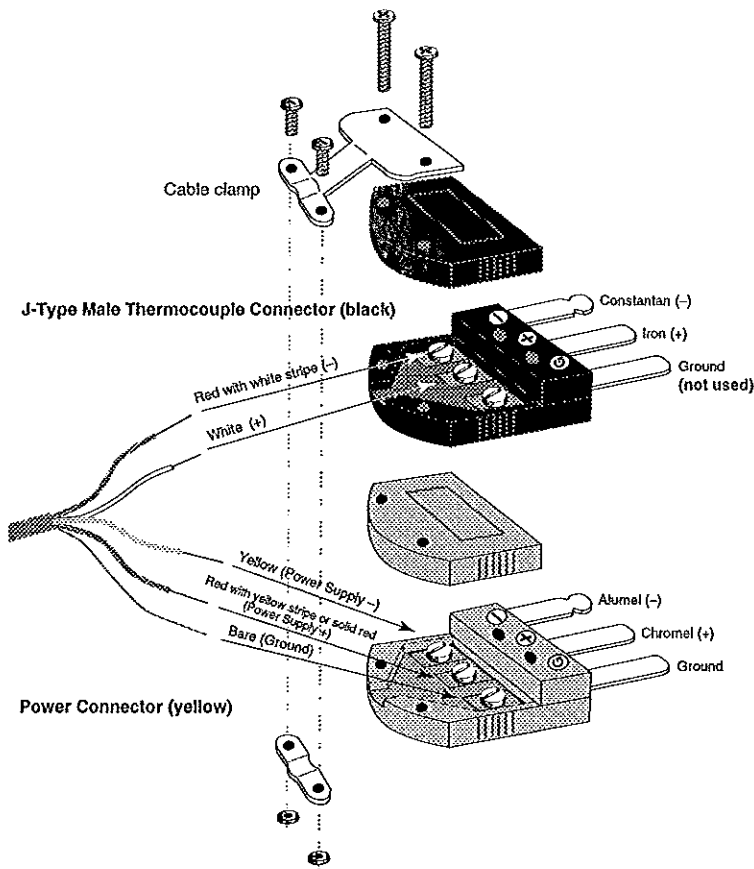

Figure 1: J-Type Male Connector
1. Remove the long screws that hold the cable clamps on the male and female connectors. (Refer to Figures 1 and 2.) Note that the connector terminals are clearly marked for negative (-), positive (+), and ground (G).
3. On the black male and female connectors, which are for the J-type thermocouple output wires, connect the red wire with the white stripe to the negative (-) terminals and the white wire to the positive (+) terminals as shown in Figures 1 and 2. **Note that the female terminals are the reverse of the male terminals.**
4. On the yellow male and female connectors, which are for the power wires, connect the yellow wire to the negative (-) terminal, the red with yellow stripe (or solid red) wire to the positive (+) terminal, and the bare ground wire to the ground (G) terminal.